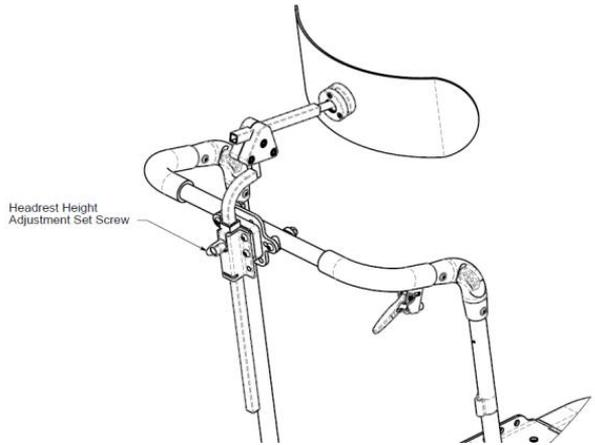

Figure 12.30: Headrest
1. Loosen the "Headrest Height Adjustment Set Screw" and slide the head rest assembly upwards until it is free of the chair (see Figure 12.30).